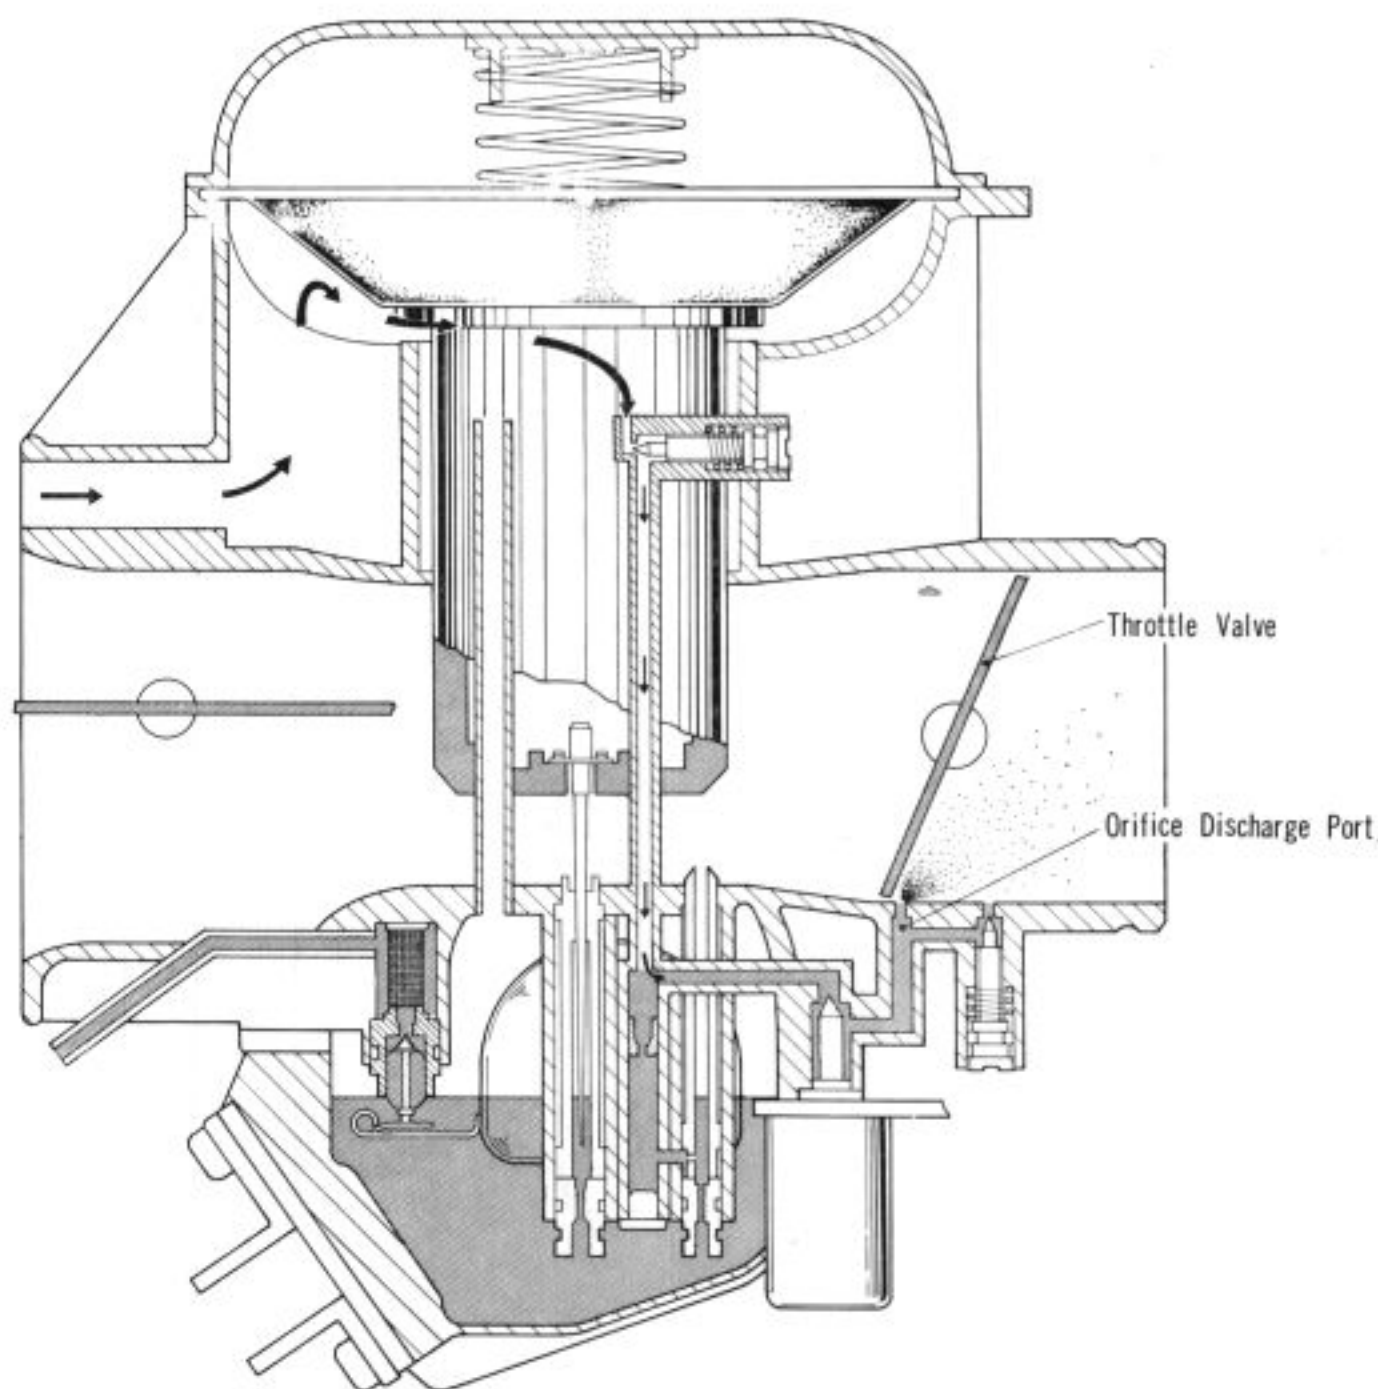

Fig. 14A-5
**Medium Speed System (Fig. 14A-6)**